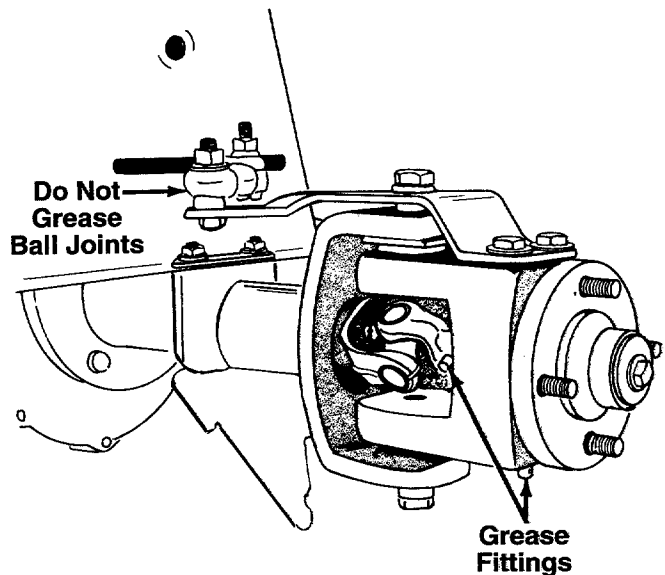

FIGURE 20.
There are grease fittings provided on the rear wheel bearing housings and U-joints. Lubricate every 25 hours of operation using automotive multi-purpose grease. See figure 20. The rear tie rod ends have service-free inserts. **Do not** oil or grease the ball joints.
**NOTE:** Figure 20 is shown with rear wheel removed.